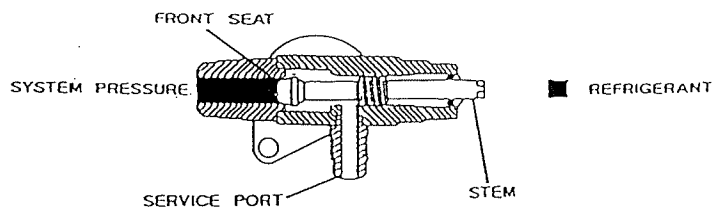

FIG.1
1. To isolate the compressor from the system the valve can be completely turned in (clockwise) until the stem seals on the front seat. This allows for negligible refrigerant loss when performing service on or replacing the compressor. (FIG.1)